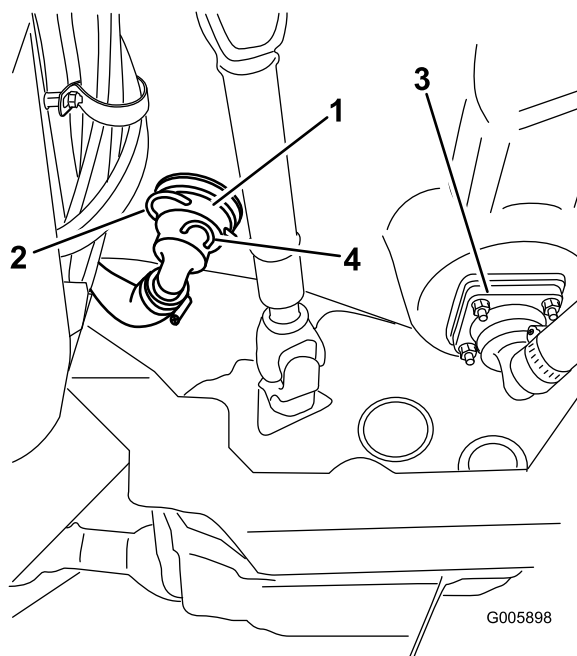

Figure 51
disconnect this end of the bypass hose (Figure 51). Retain the medium fork at this location for later use.
9. Locate tank return hose in loose parts (Figure 1). Under the machine, locate the opening where the original bypass hose was disconnected (Figure 51). Install the 90 degree fitting at this opening and use the existing large fork to secure the connection.